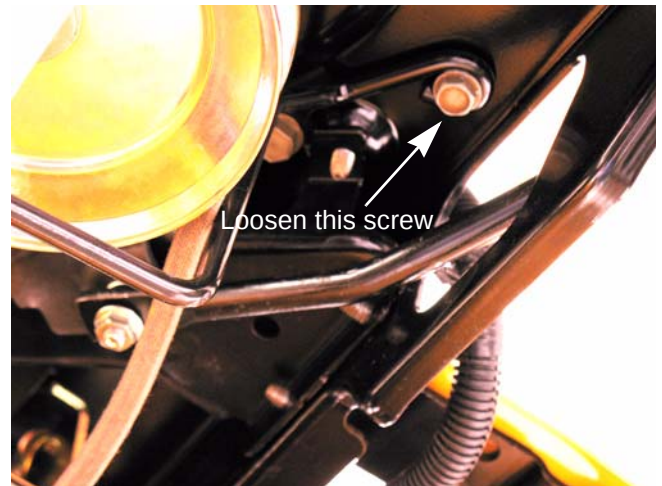

Figure 8.1
- A. Loosen the bolt that fastens the belt guard to the frame using a 1/2" wrench. See Figure 8.1.